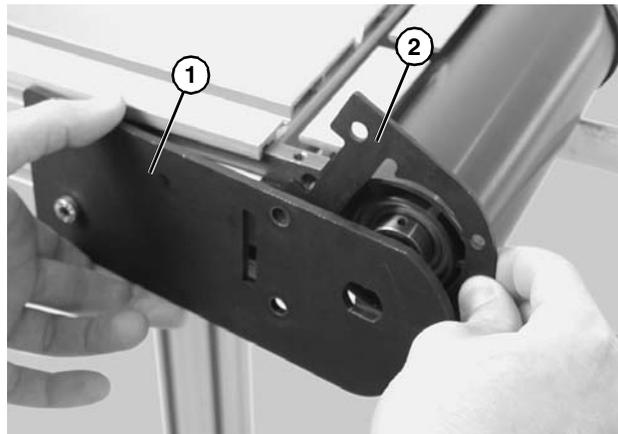

Figure 55
3. Pull back the outer headplate (**Figure 55, item 1**) and remove the inner spacer (**Figure 55, item 2**).